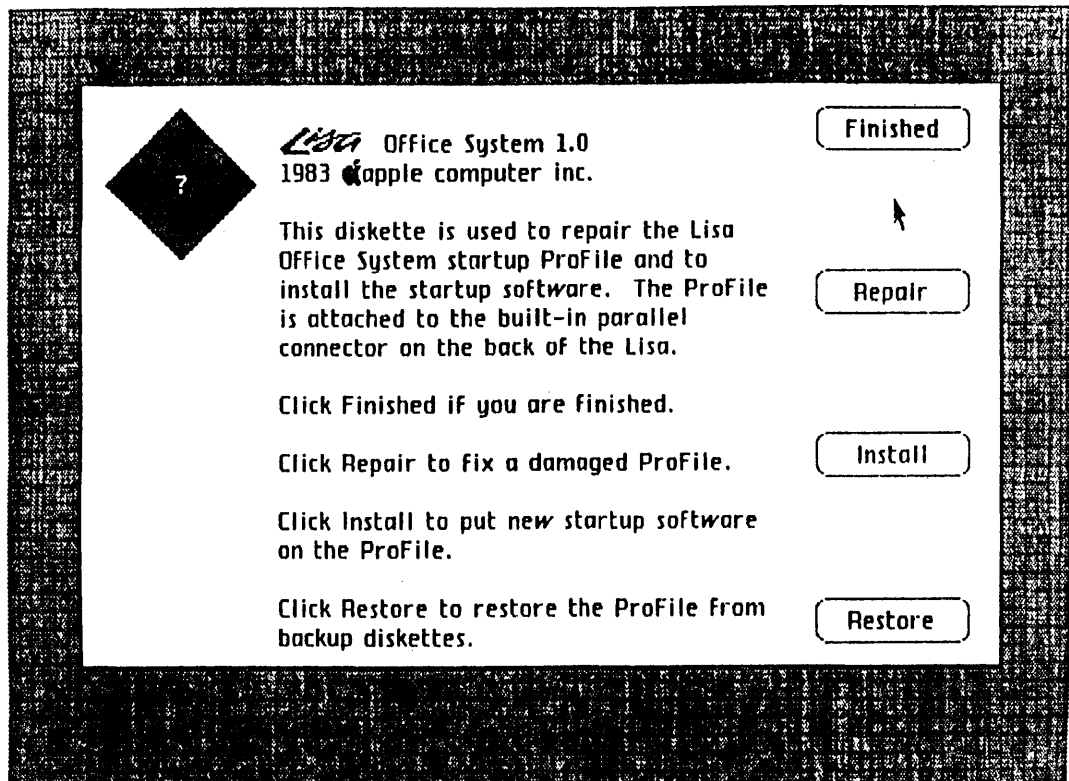

FIGURE 2
5. A screen like Figure 2 will appear (but with only three options). Roll the mouse on your desk until the pointer is over the box that says "Install".
9. Now the Lisa will display the screen shown in Figure 2. This time, click "Finished".